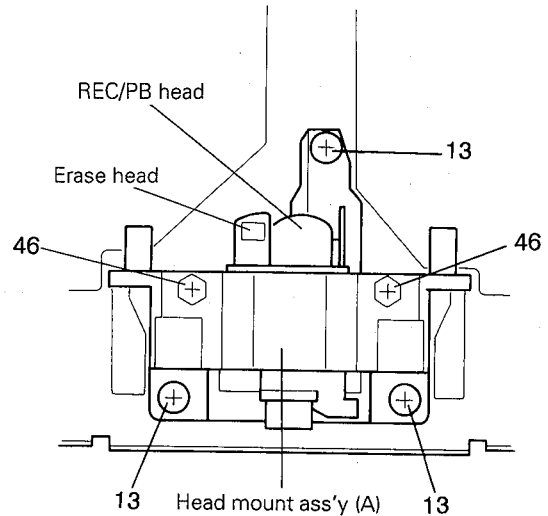

Fig. 5-42
■ Head mount assembly (A) (Fig. 5-42)